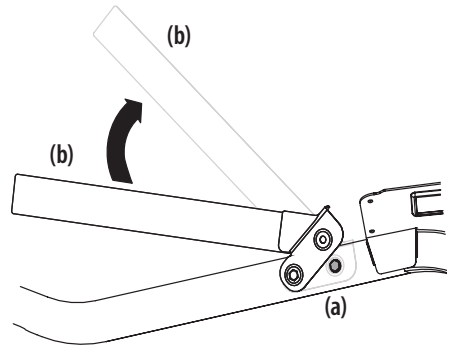

Figure 4
1. Remove the two hex washer screws (a) partially installed on the frame. See Figure 4.
2. Rotate the upper hoop (b) into position. See Figure 4.